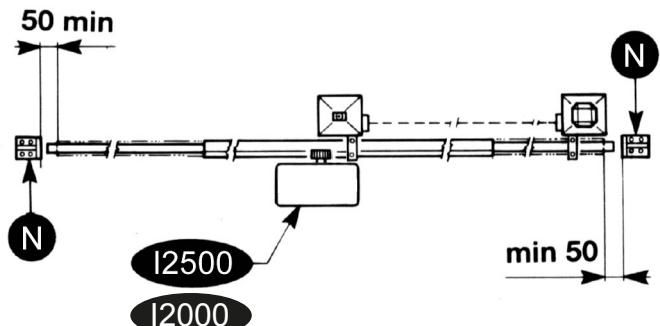
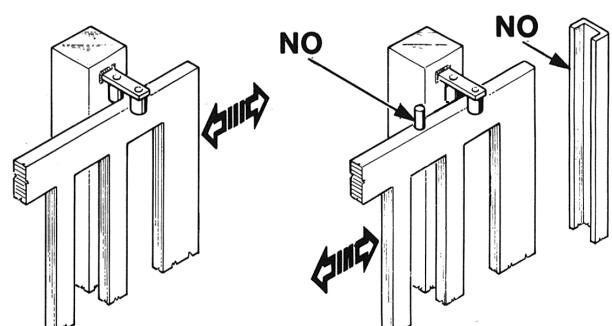

FIG. 2
FIG. 3
- Besides the electrical or mechanical limit switches available on the operators, there must be, on both ends of the installation, a fixed mechanical stopper which stop the gate in the unlikely event of ill functioning of limit switches on the operators. For this reason the fixed mechanical stopper must be of an adequate size to withstand the static and kinetic forces generated by the gate (N) (Fig.2).
The guide must be provided with two mechanical stops at its ends (N) (Fig. 2). Gate columns shall have anti-derailment guides on their top (Fig. 3), to avoid the unintentional gate release.
**N.B:** Eliminate those mechanical stops of the kind described by figure 3.